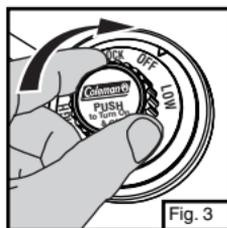

Fig. 3
- Turn off regulator valve. (Fig. 3)